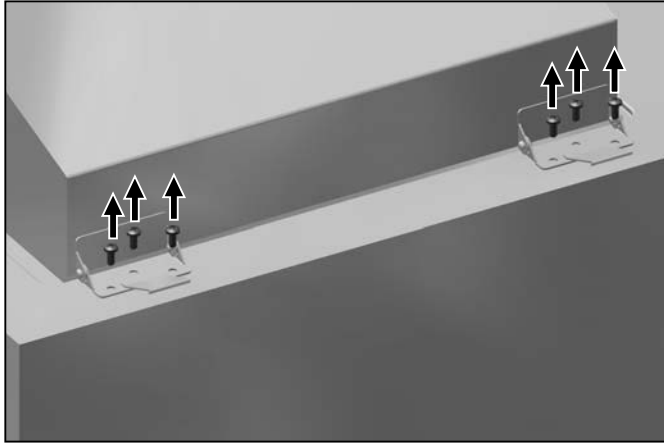

Fig. 7 Unscrew standard lid from waterbath
2. Unscrew the hinges of the original lid from the waterbath (Fig. 7); remove lid.